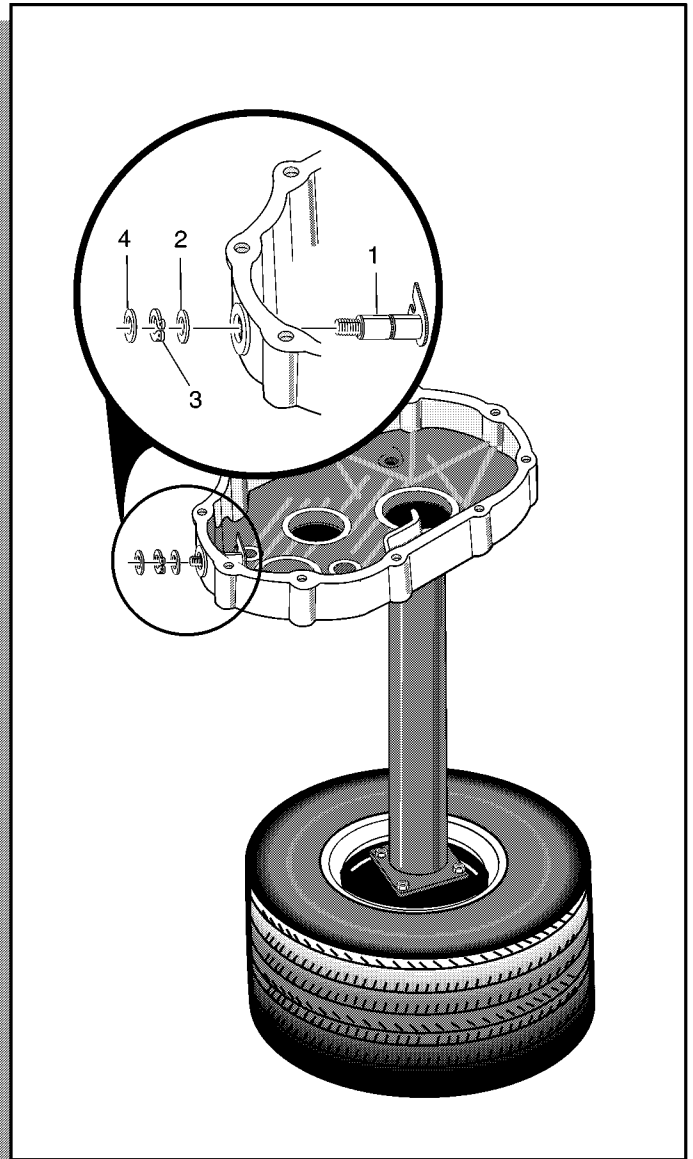

Fig. C-13 Selector Shaft Installation
1. Lubricate the shaft (1) with assembly lube (Molybdenum disulfide) and insert it into the casing bore as shown (Ref Fig. C-13 on page C-5).